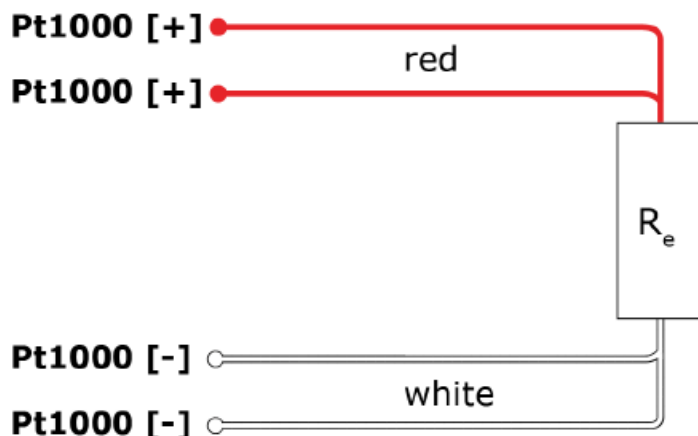

Figure 4.4.2 4-wire circuit diagram, R_e represents the sensor resistance.
- Figure 4.4.2 shows the circuit diagram for a 4-wire configuration. A 4-wire configuration is recommended. For extension, always use a shielded cable.